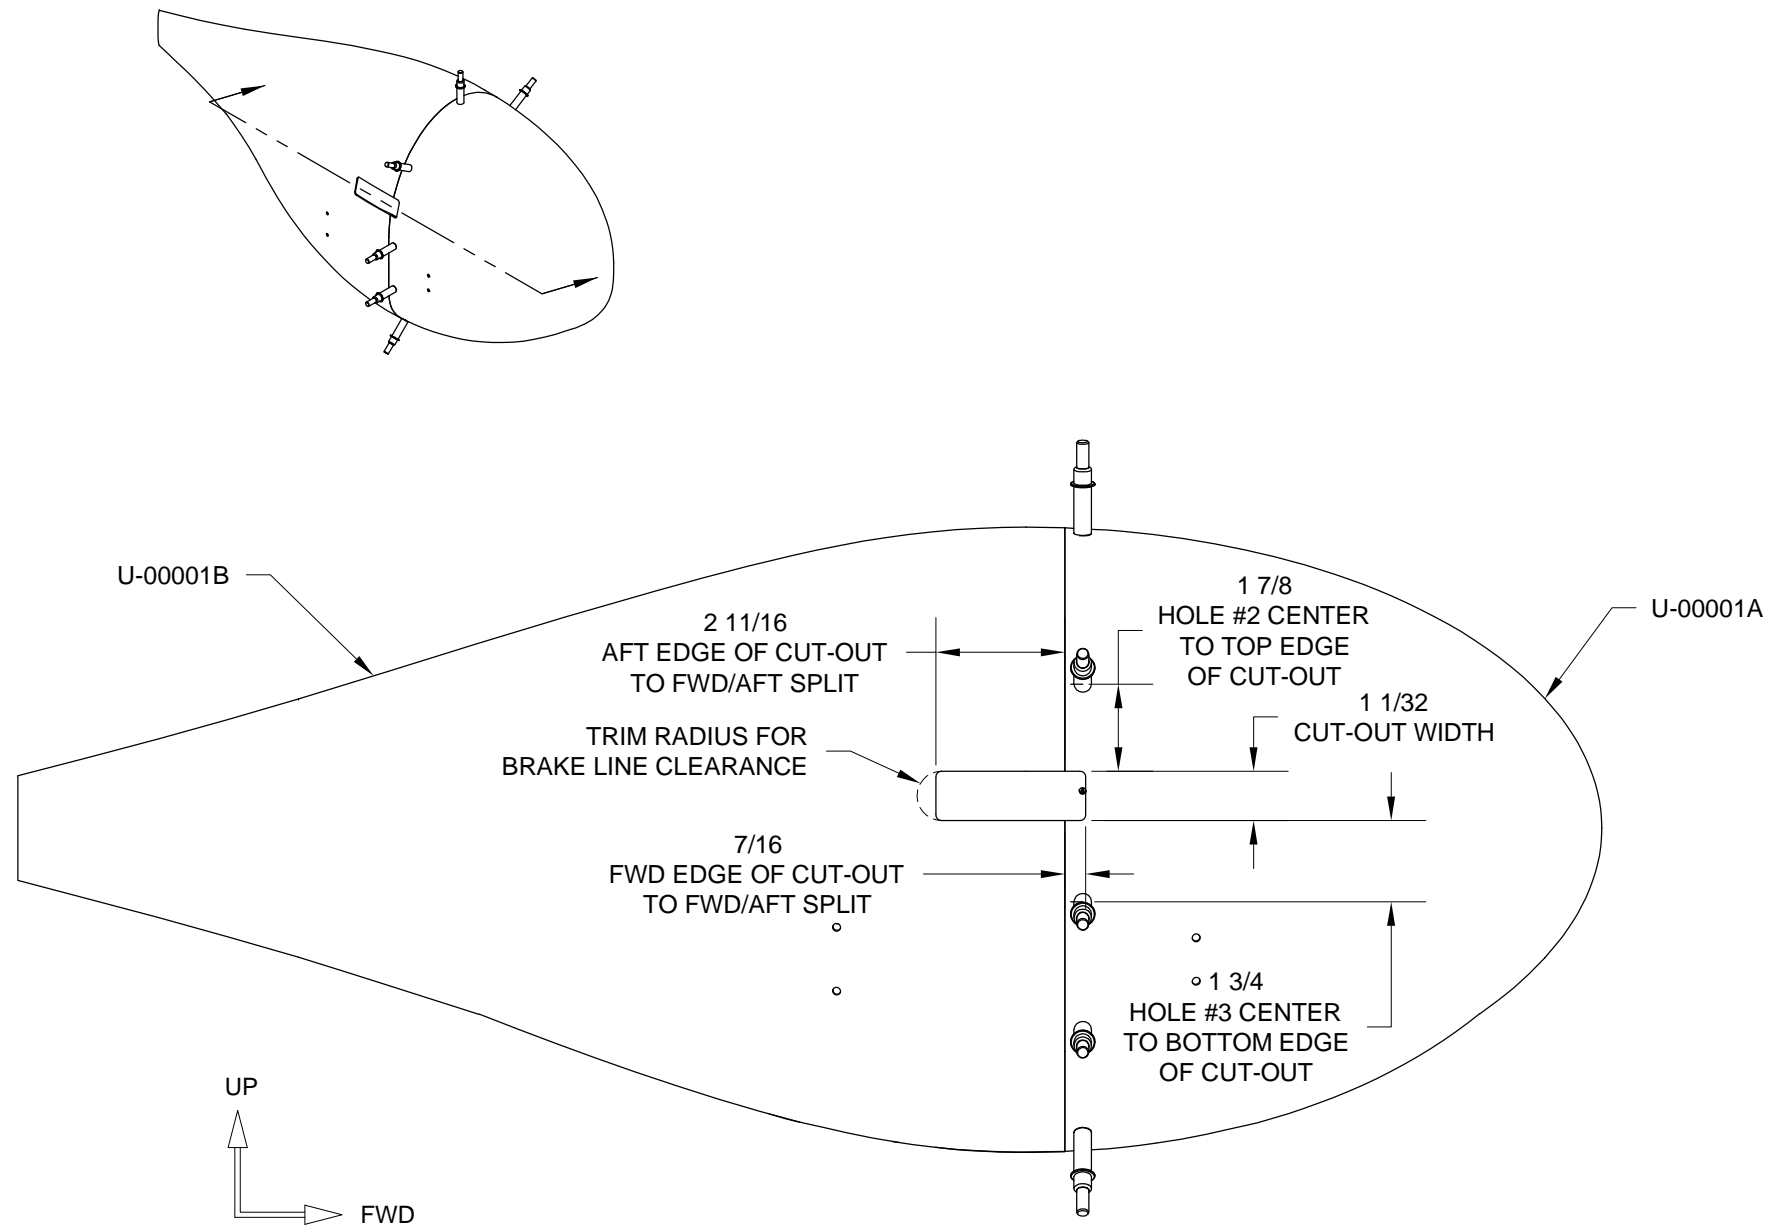

FIGURE 1:
Step 1: Use a fine point felt pen to mark gear leg opening on the U-00001A Wheel Fairing Front and U-00001B Wheel Fairing Aft as shown in Figure 1. Trim to within 1/16 of trim line then sand to finish edge.
Add a radius to wheel fairing aft for brake line clearance as shown in Figure 1.